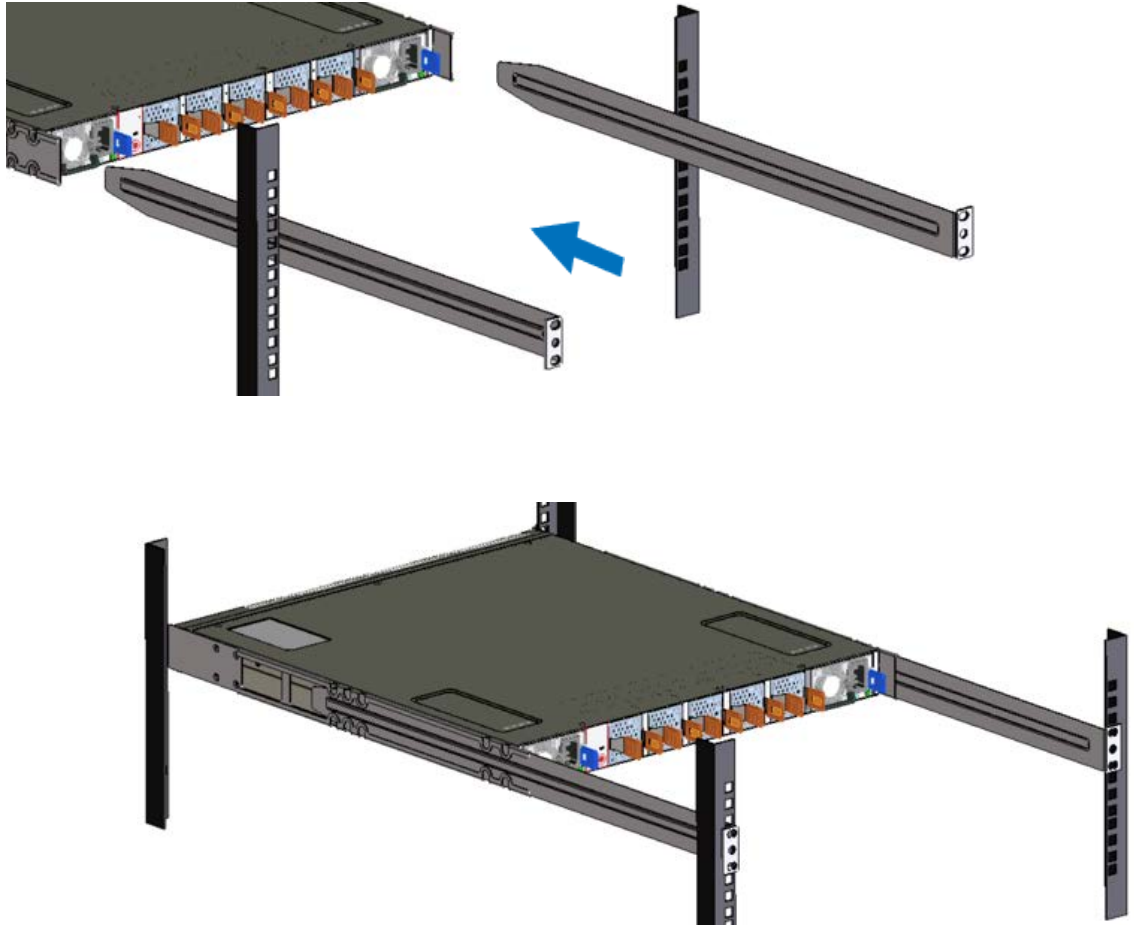

Figure 23. Aligning the Rear Rack Brackets to the Rear Rack Poles
6. Insert the rear rack brackets to the front rack brackets attached to the sides of the switch and align the rear rack brackets to the rear rack poles. See Figure 23.